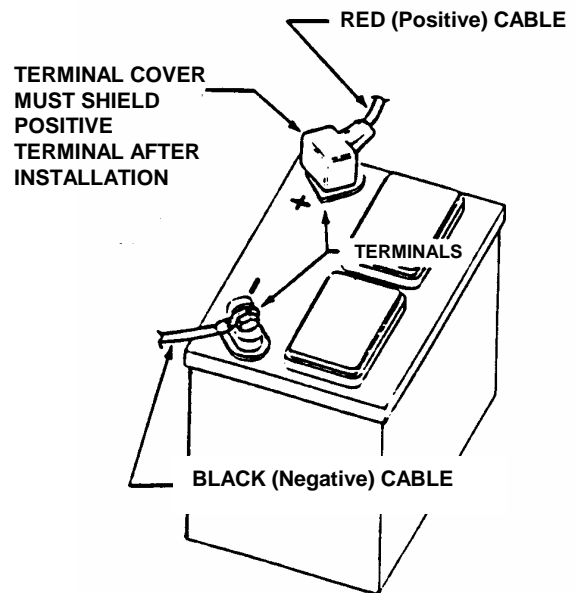

FIGURE 4.9
3. Reinstall battery retainer and positive terminal cover. See Figure 4.9